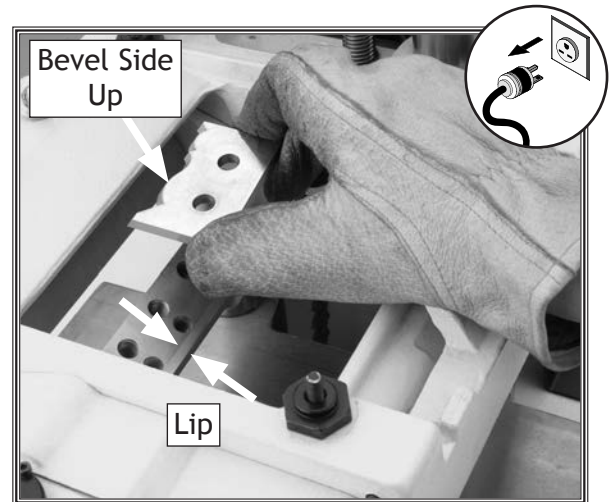

Figure 26. Installing moulding knife.
4. Remove any dust, wood chips, and pitch from the cutterhead knife seat and lip (see **Figure 26**).
5. With the beveled side of the knife facing up, place the moulding knife against the cutterhead lip as shown in **Figure 26**.